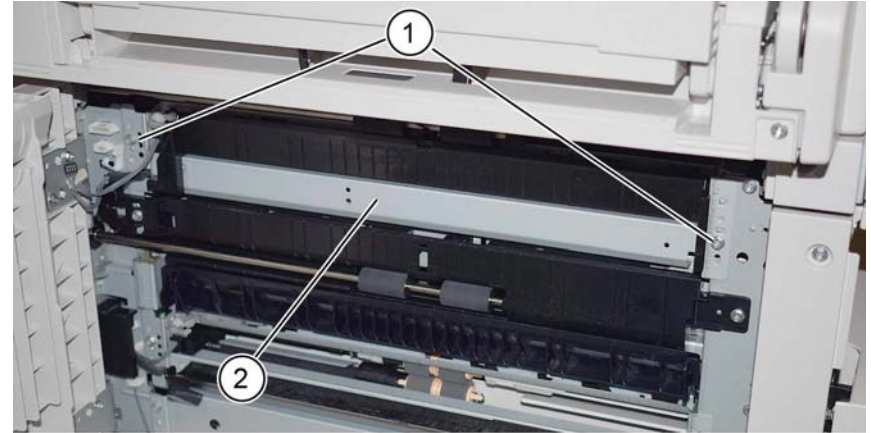

Figure 4 Tray 2 feeder assembly removal
7. Remove the tray 2 feeder assembly, Figure 4:
- a. Remove two screws (1).
- b. Remove the tray 2 feeder assembly (2).